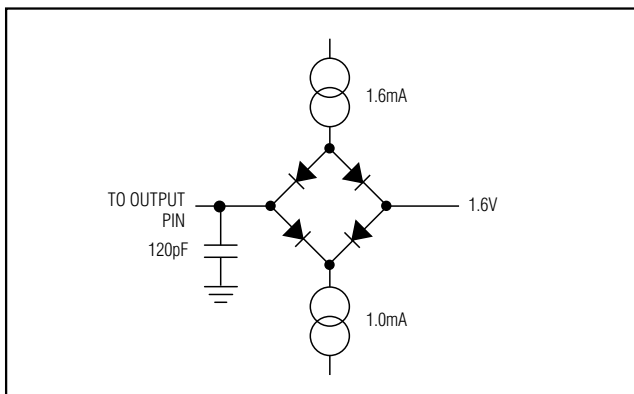

Figure 1. Load Circuit for Access Time and Bus Relinquish Time
**Note 12:** The data access time is defined as the time required for an output to cross  $+0.8V$  or  $+2.0V$ . It is measured using the circuit of Figure 1. The measured number is then extrapolated back to determine the value with a 25pF load.
**Note 13:** The bus relinquish time is derived from the measured time taken for the data outputs to change  $+0.5V$  when loaded with the circuit of Figure 1. The measured number is then extrapolated back to remove the effects of charging and discharging the 120pF capacitor. The time given is the part's true bus relinquish time, which is independent of the external bus loading capacitance.